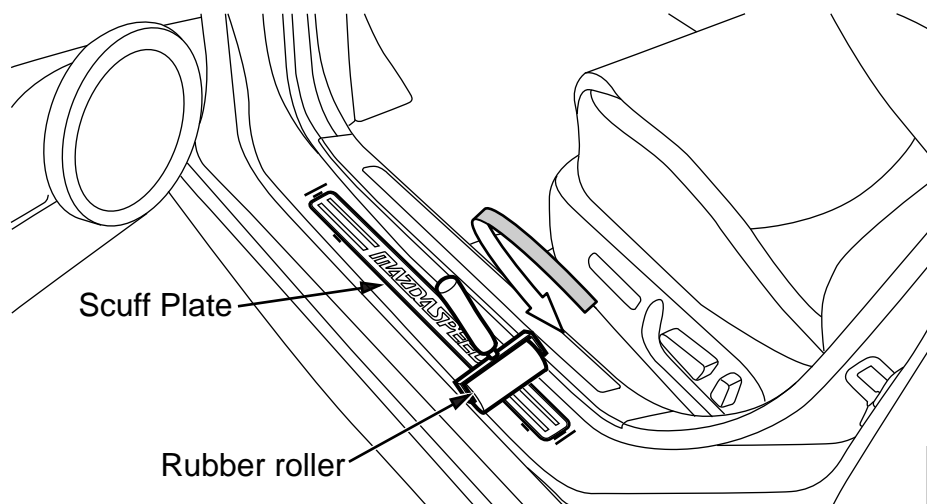

Figure 13
- A. Use Rubber Roller, from center out, press down the perimeter of part to ensure proper wet-out of adhesive. (Figure 13) (Use caution to ensure roller does not scratch vehicle)